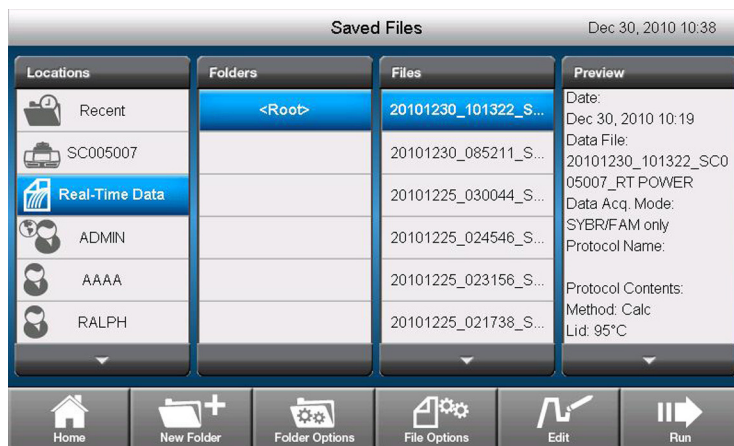

Figure 45. Selecting a real-time data file to export to a USB flash drive.
1. Touch **Saved Files** on the home screen to access the file folders (Figure 45).